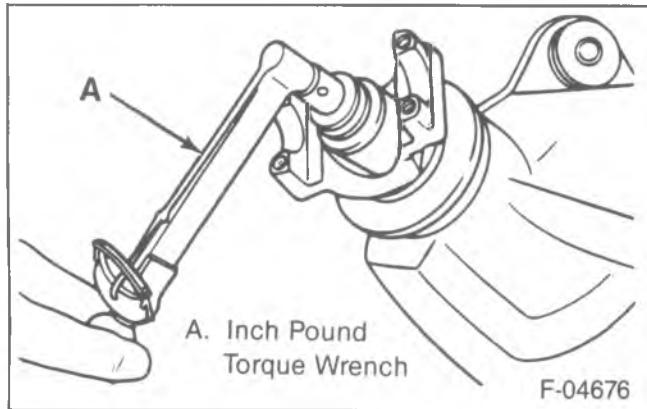

Figure 4—Checking Pinion Preload
- Drive pinion bearing preload (figure 4).
14. Pinion flange nut (11) and washer (12) using J-8614-01 to hold the pinion flange.